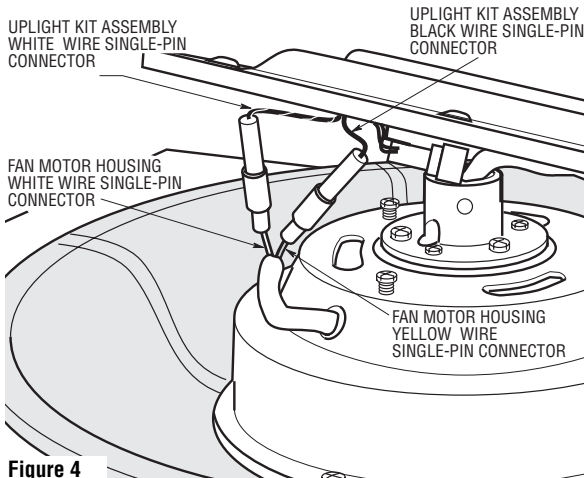

Figure 4
- 9. Connect the fan motor housing yellow wire single-pin connector to the black wire single-pin connector from the uplight kit assembly; connect the fan motor housing white wire single-pin connector to the white wire single-pin connector from the uplight kit assembly (Figure 4). Be sure all wire connectors are fully engaged.